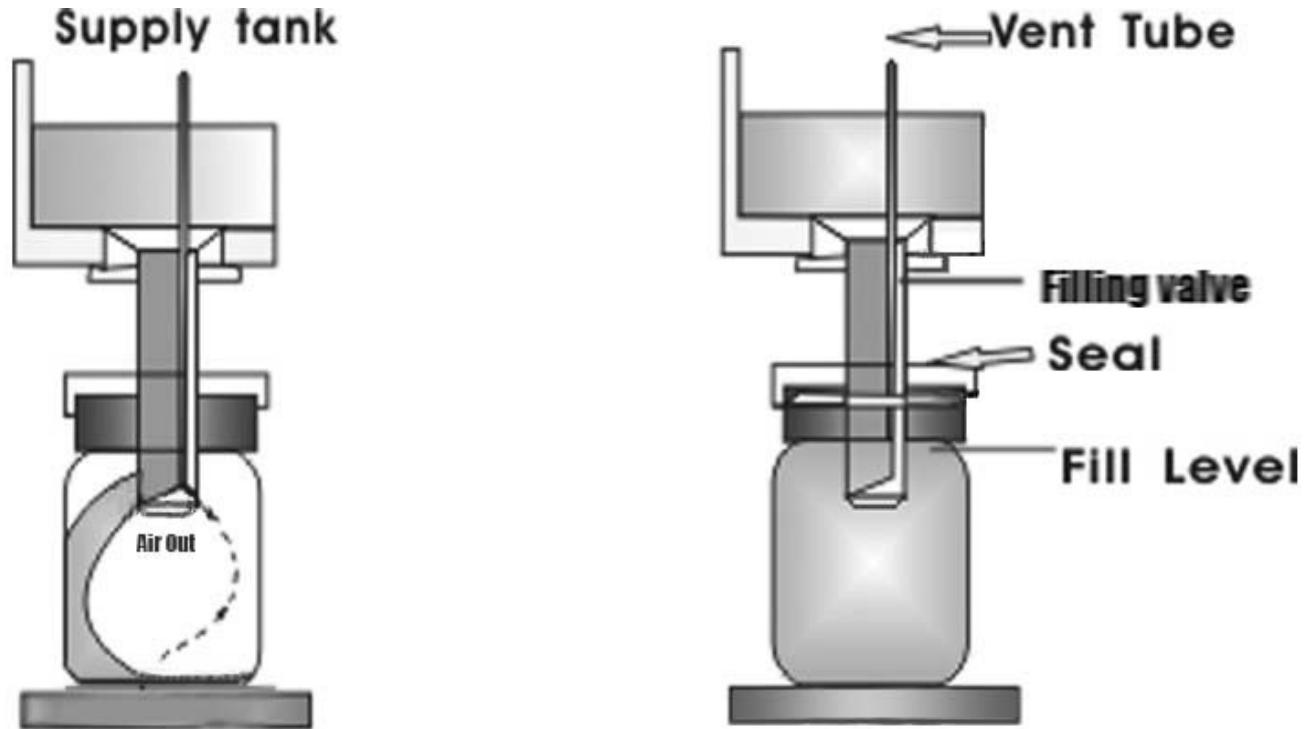

Figure 20.14 Pure gravity filling 动画
- Being not only one of the oldest and simplest constant level filling methods, but it is also one of the most accurate ones for filling free-flowing products(Figure 20.14).